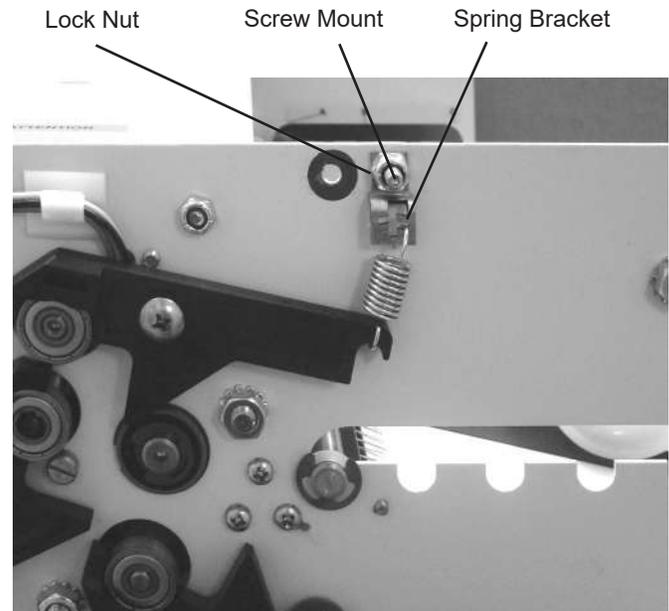

Fig.68a
4. Move the spring position up on the spring bracket (Fig 68a), if more tension is needed proceed to steps 5 - 7
5. Remove the lock nut (Fig. 68a) holding the spring bracket (Fig. 68a) in place.
6. Remove the spring bracket from the screw mount (Fig. 68a) and the spring.